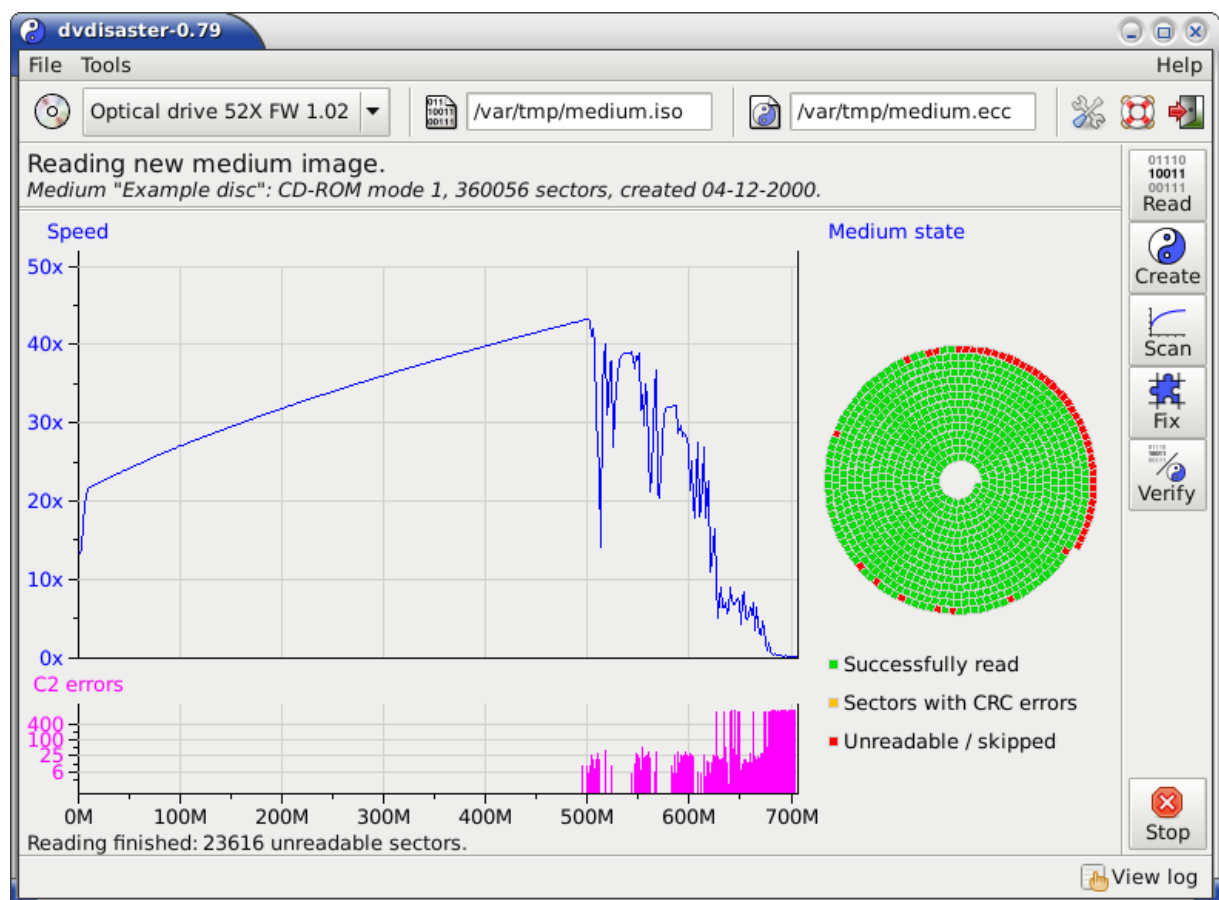

Figure 1: Reading a defective medium.
**Recovery of aged media.** The medium processed here has become discolored and partly unreadable in its outer region. A reading attempt yields about 23.600 unreadable sectors of 360056 sectors total; resulting in about 6,6% defective sectors. Figure 1 shows the `dvdisaster` window after the reading attempt. The distribution of reading speed and read errors over the medium is graphically shown. The still readable sectors are stored in an ISO image called *medium.iso*.